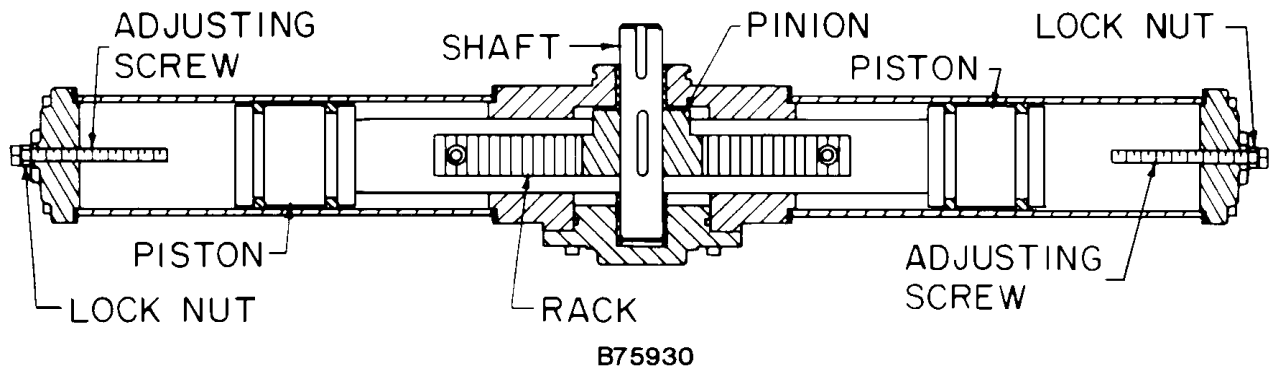

FIGURE 4-7 – TURN VALVE ACTUATOR
**Turn Valve Actuator** (FIGURE 4-7, page 25) – The turn valve actuator is a rotary rack and pinion device which positions the turn valve according to system demand. Filtered oil from the reservoir is directed to the outboard ends of the two actuating cylinders to move the rack and rotate the valve. Located on the end of the cylinders are adjusting screws which limit the travel of the actuator. When looking at the rear of the compressor, the adjusting screw on the bottom of the compressor adjusts the fully closed (full load) position of the valve. The full load position of the actuator may be checked by removing the adjusting screw at the unloaded end of the actuator (top of the compressor) and using a rod to push the pistons to the full load position. The rod must be clean and free of burrs and scale. Take care not to scrape the cylinder walls when moving the pistons.